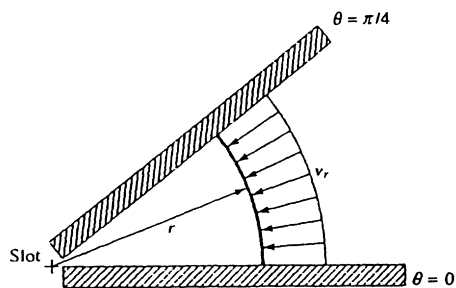

Fig. P4.52
**4.52** A two-dimensional, incompressible, frictionless fluid is guided by wedge-shaped walls into a small slot at the origin, as in Fig. P4.52. The width into the paper is  $b$ , and the volume flow rate is  $Q$ . At any given distance  $r$  from the slot, the flow is radial inward, with constant velocity. Find an expression for the polar-coordinate stream function of this flow.